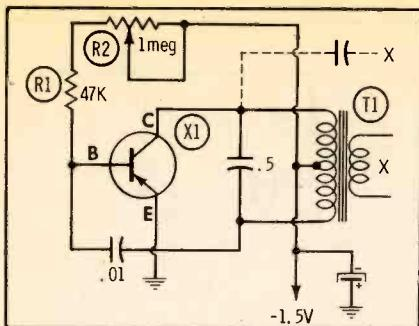

**Fig. 22.** Three crystal-controlled transistor oscillators of the Pierce variety.
Fig. 22 shows three common versions found in modern signal generators. All are variations of the Pierce circuit and use both PNP and NPN transistors. Feedback is from collector to base, controlled by the natural frequency of the oscillator crystal. With other transistors, different component values might be used. Output (X) is taken from capacitive dividers for impedance-matching purposes. In Fig. 22B, the capacitive divider is part of a tuned output tank; tuned tanks are used only occasionally in crystal-controlled circuits of this direct-drive variety (on the other hand, overtone crystal oscillators, which operate on the second or third harmonic of a crystal, regularly use a tuned collector tank to assure stability at the overtone frequency). One other feature of the circuit in Fig. 22B is the extra output; primary output X is fed to down-counting multivibrators, while secondary output Y feeds a vertical-line-forming stage.